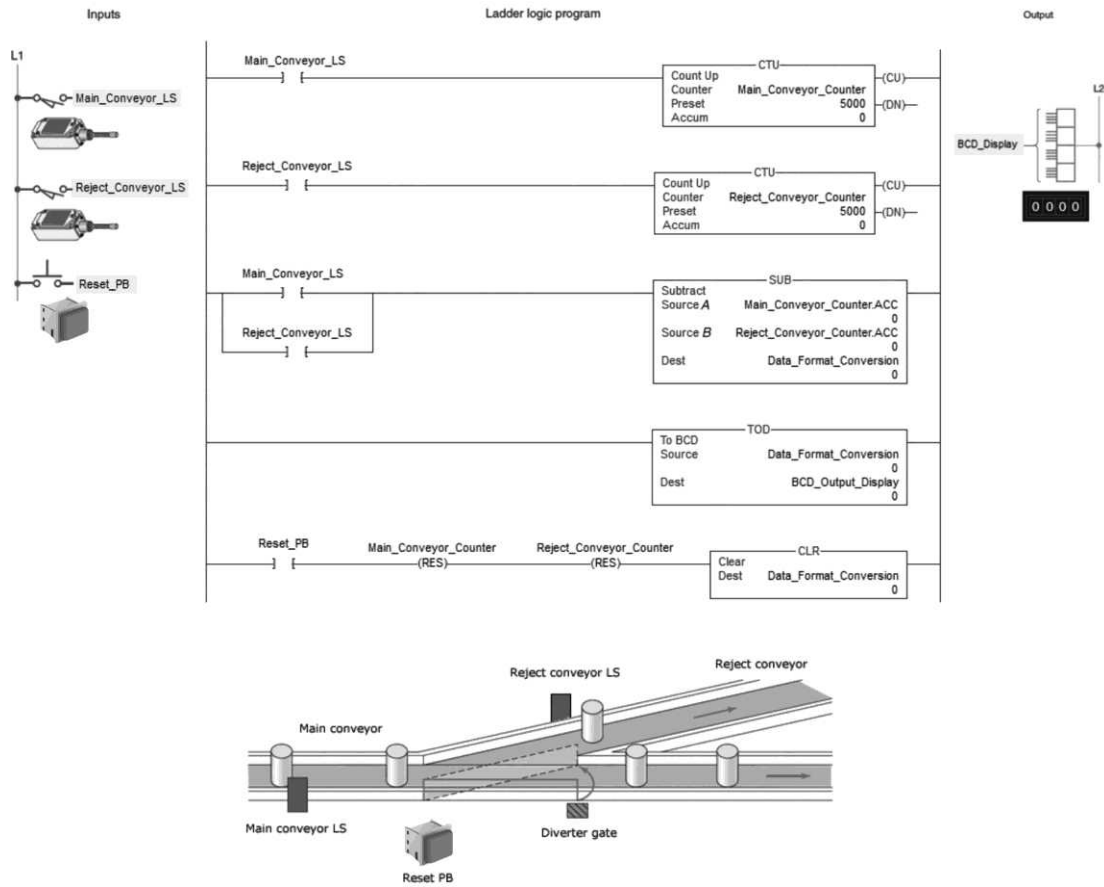

Figure 15-53 Conveyor parts tracking program for assignment 6.
6) The conveyor parts tracking program is shown in Figure 15-53 and described in the text. Prepare an I/O connection diagram and ladder logic program that will simulate its operation. Utilize field devices found on your ControlLogix installation. Enter the program into the controller, and monitor its operation.